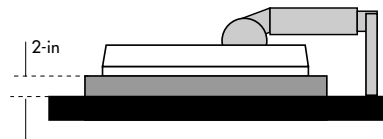

Figure S.1
3. Place monitor face down on a non-abrasive surface. (Place the screen on a 2-inch platform so that the stand is parallel with the surface.) (Figure S.1)